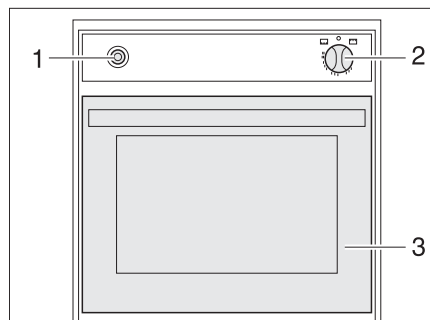

Fig. 260 Gas oven (Spinflo)
- Fully open the oven flap (Fig. 260,3).
- Lightly press control knob (Fig. 260,2) and set to "🔥" (oven) or "🔥 GRILL" (grill).
- Press the control knob (Fig. 260,2) and hold it down for 5 to 10 seconds. Gas will stream into the burner.
- Press the ignition switch (Fig. 260,1) repeatedly until there is a flame.
- Turn the control knob (Fig. 260,2) to "O". The flame fades.